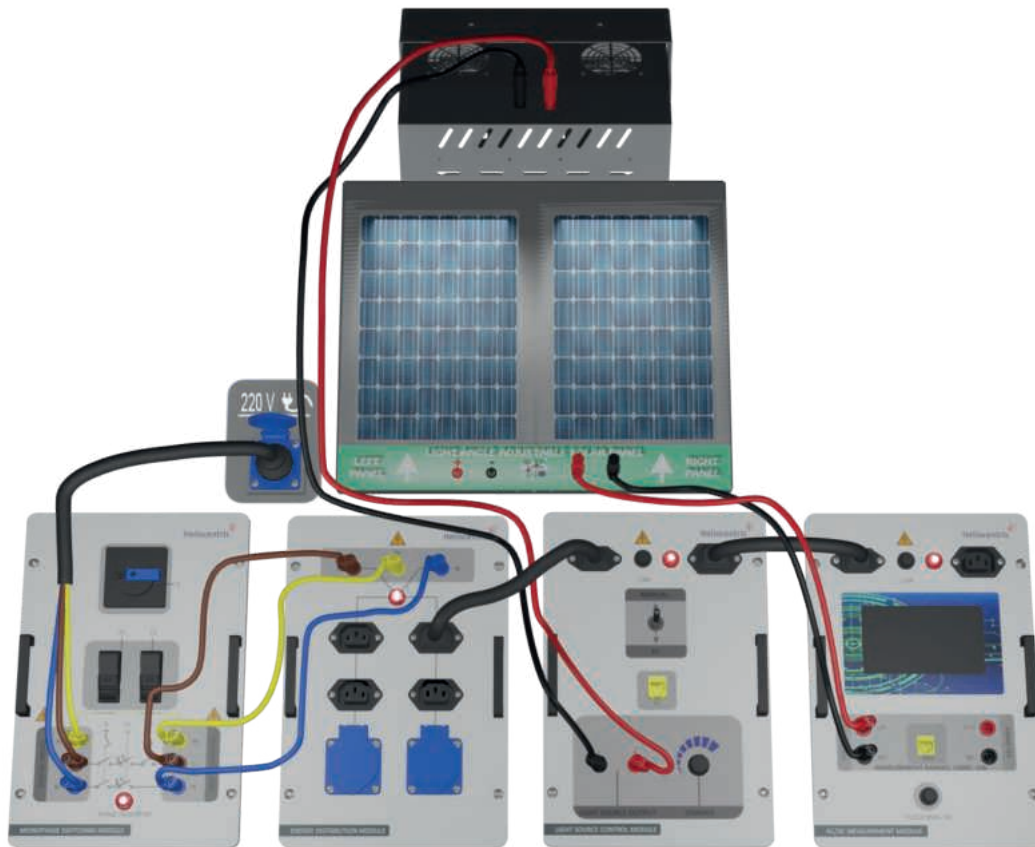

Figure-31. Installation Image of PV Panel Open Circuit Voltage Measurement Experiment
2. Set up the connections as specified in Figure-31. Ensure a consistent level of light in the laboratory to create an average scenario. Any changes to the positions of the lamps or curtains may affect the experimental outcomes.